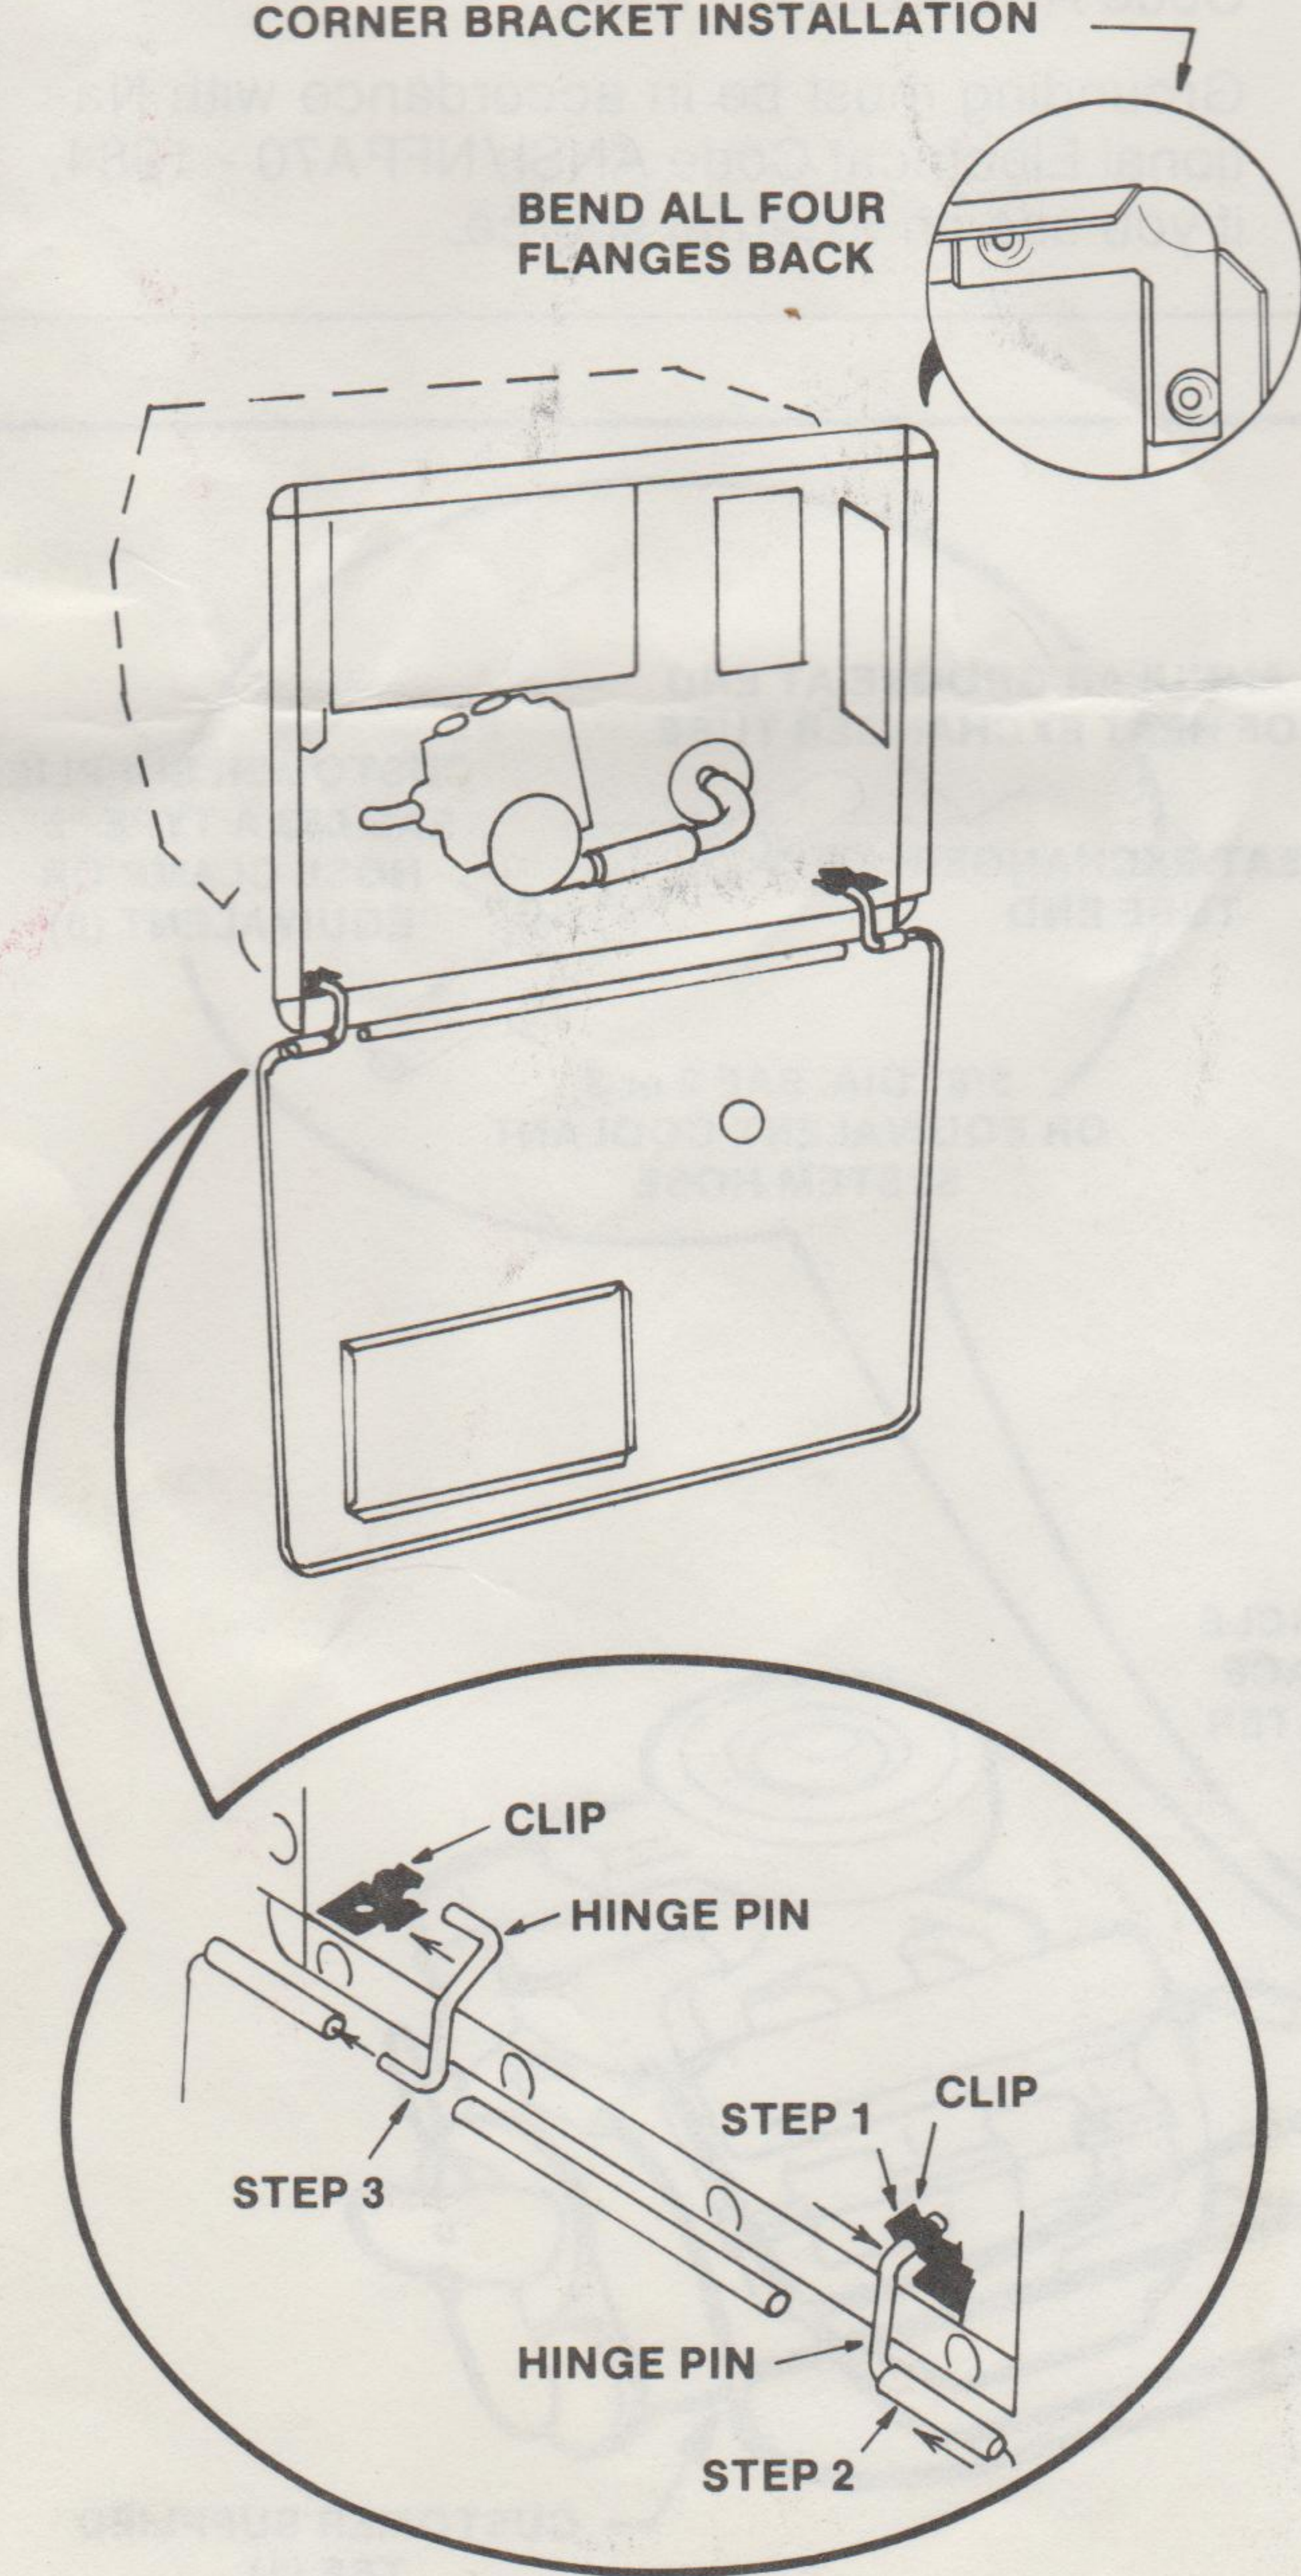

FIGURE 5
9. Attach access door as shown. (Figure 5)